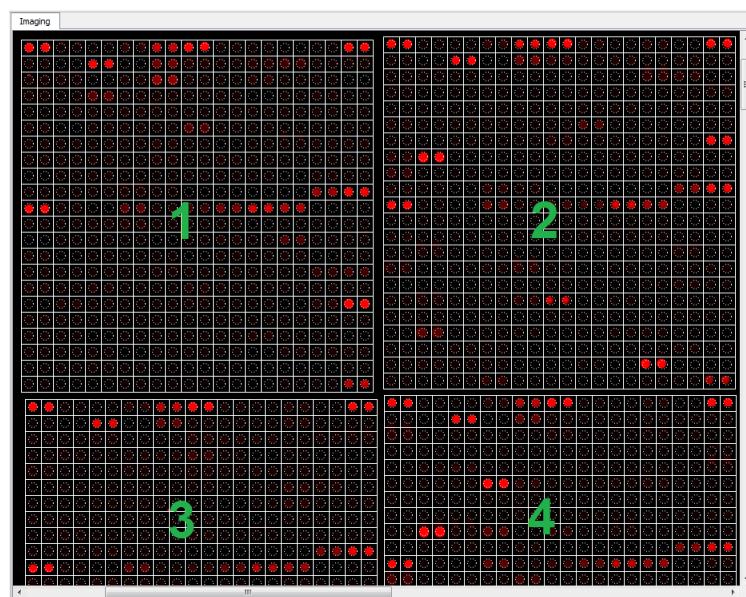

Figure 21: Offset of Blocks.
Normally, adjacent blocks should have approximately the same horizontal (X) or vertical (Y) position. However, printed blocks may be slightly offset from the planned positions. In Figure 21, we observe differences in the horizontal position of block 1 and block 3, as well as in the vertical position of block 3 and block 4.
- *Left-most Blocks*: Maximum difference in X-position between left-most blocks (e.g., block 1 and block 3 in Figure 21).
- *Adjacent Blocks*: Maximum difference in X-position between two adjacent blocks that are not left-most (e.g., block 2 and block 4 in Figure 21).
- *Top-most Blocks*: Maximum difference in Y-position between top-most blocks (e.g., block 1 and block 2 in Figure 21).
- *Adjacent Blocks*: Maximum difference in Y-position between two adjacent blocks that are not top-most (e.g., block 3 and block 4 in Figure 21).